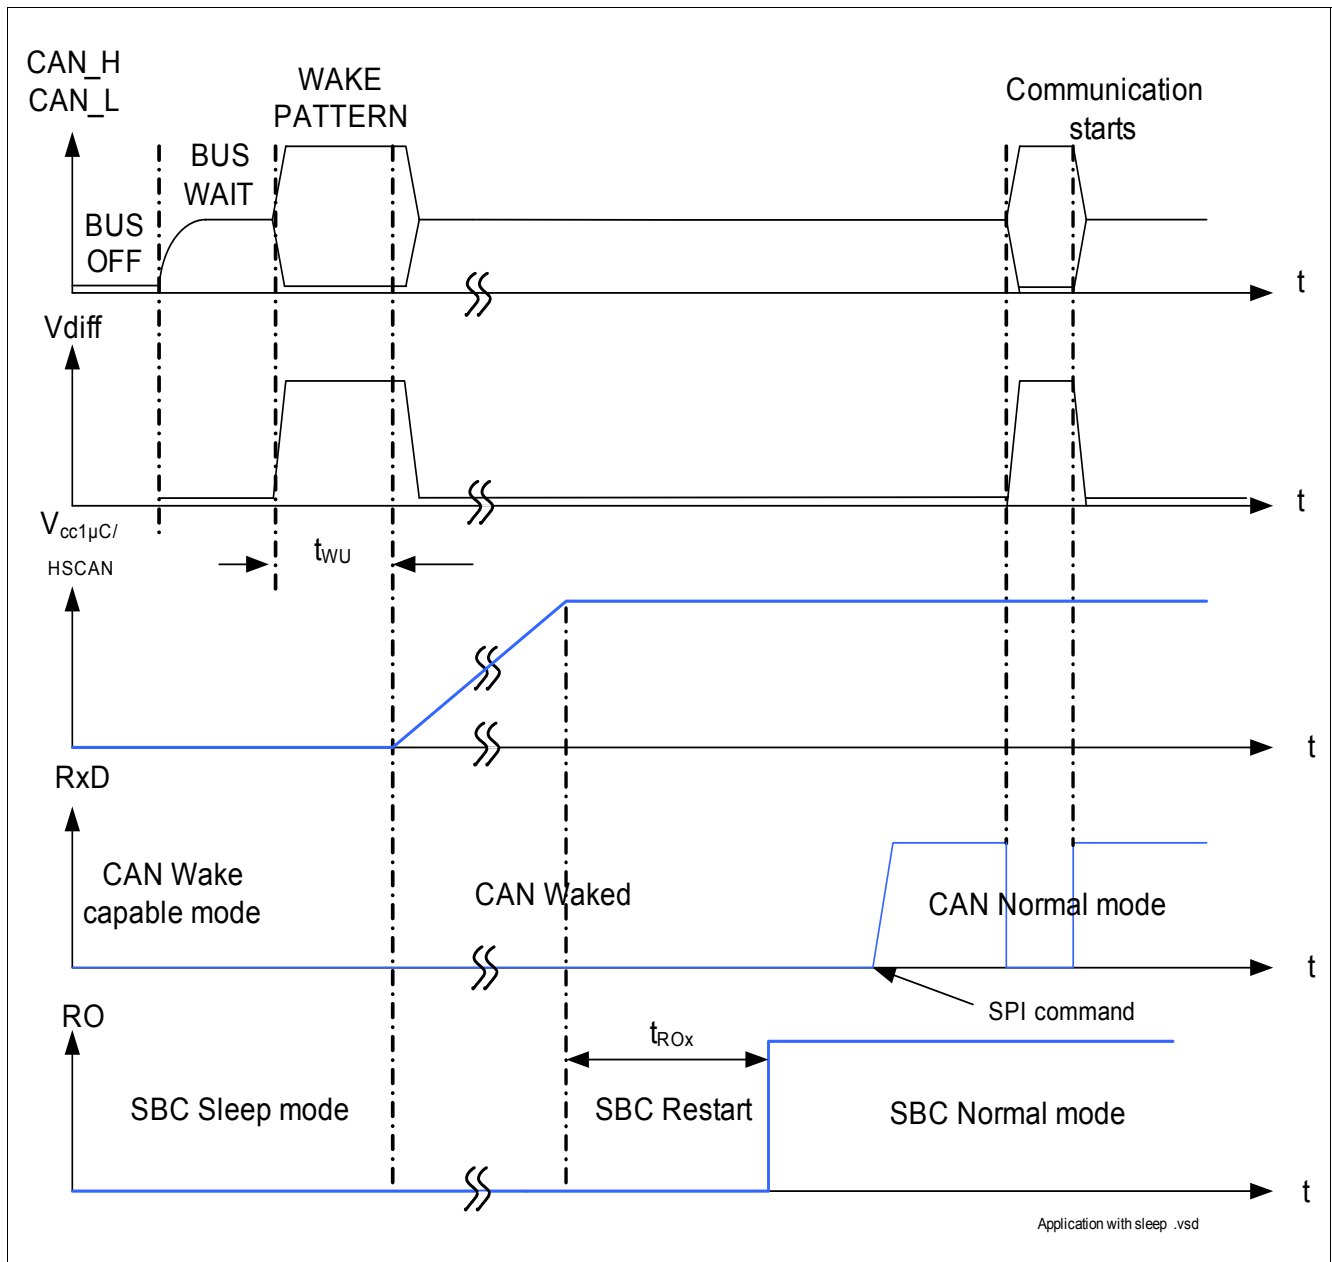

Figure 11 Timing during Transition from Sleep to Normal Mode
Refer to Figure 11 for a description of the matching of the transceiver modes with the SBC mode.
Wake-up is possible via a CAN message (filtering time $t > t_{WU}$), it automatically transfers the SBC into the SBC Restart Mode and from there to Normal Mode the RxD pins in set to LOW, see Figure 11. The microcontroller is able to detect the low signal on RxD and to read the wake source out of the "Wake Register Interrupt" register (000) via SPI. No Interrupt is generated when coming out of Sleep Mode.
In SBC Sleep Mode, a wake-up on the CAN cell will set the SBC to Restart Mode automatically if the CAN Wake Capable Mode of the SBC is selected via SPI. **Figure 11** shows the typical timing.